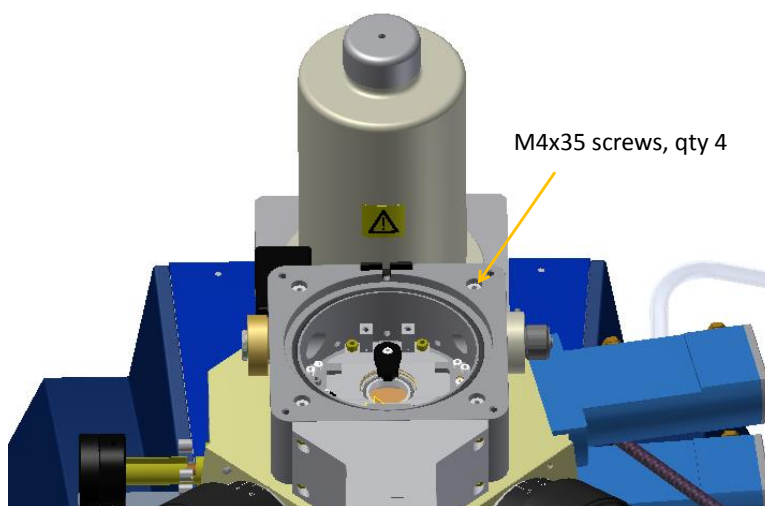

Figure 5-16. Removing the load lock
3. **Remove the 4 screws that hold the load lock chamber to the work chamber. See Figure 5-16. Lift off the load lock assembly from the work chamber.**